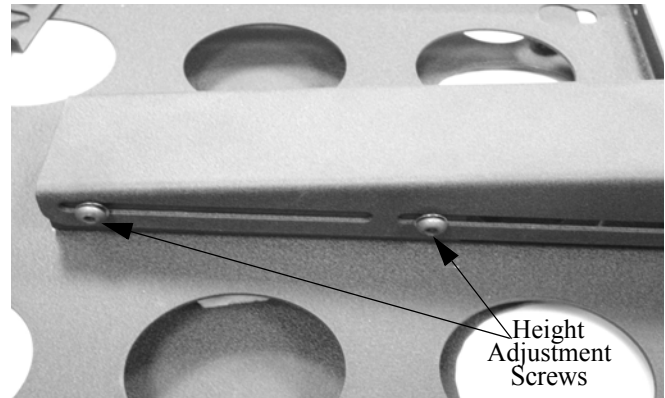

Figure 9. Height Adjustment
1. Loosen four 5/16-18 button head cap screws (see Figure 9).